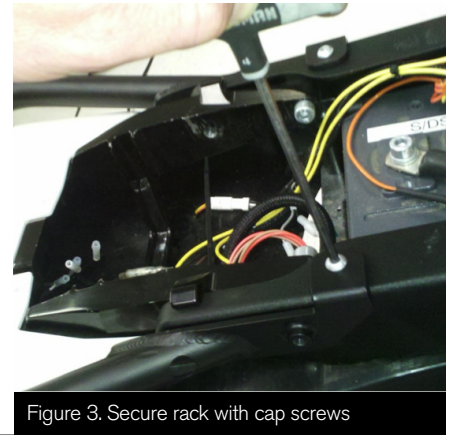

Figure 3. Secure rack with cap screws
- 3.** Install Top Case Weldment Assembly on motorcycle as shown in Figure 3 making sure to align larger holes on sides with the seat bolt holes and the smaller holes on top with the holes on top of motorcycle frame. Secure assembly with M6x16 Hexagon Socket Button Head Cap Screws using a 4 mm allen key. Torque screws to 6 ft-lbs.